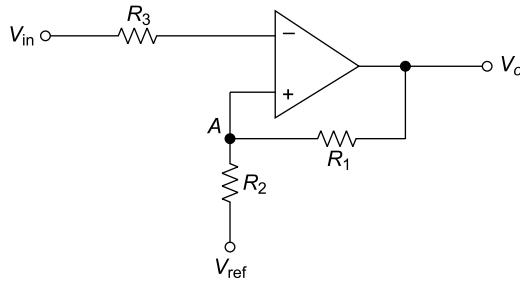

Fig. 5.79 Schmitt trigger circuit
5.28 Figure 5.79 shows a Schmitt trigger circuit where $R_1 = 50 \text{ k}\Omega$, $R_2 = 10 \text{ k}\Omega$, $V_{\text{ref}} = +5 \text{ V}$, saturation voltage $\pm 14 \text{ V}$, and $V_{\text{in}} = 12 \sin \omega t$.